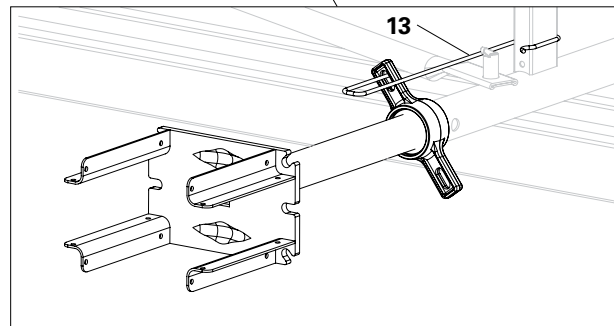

Fig. A2.08a
- The Cross Head Spindles TR 48-75/47 (6) must be secured with PD 5 Spindle Safety Straps (13). (Fig. A2.08a)